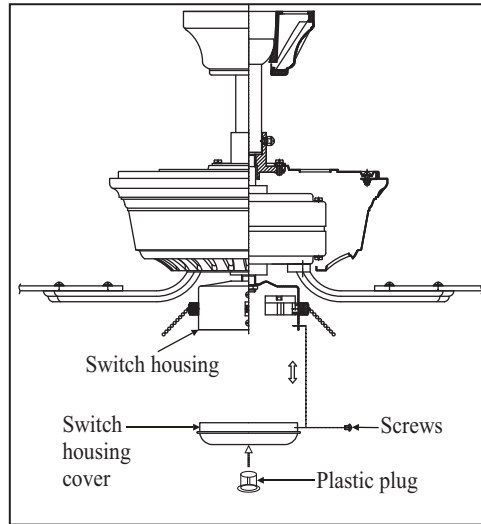

Figure 22
2. Attach the plastic plug to the switch housing cover. (Fig. 22)
3. Install the switch housing cover to the switch housing with screws provided. (Fig. 22)